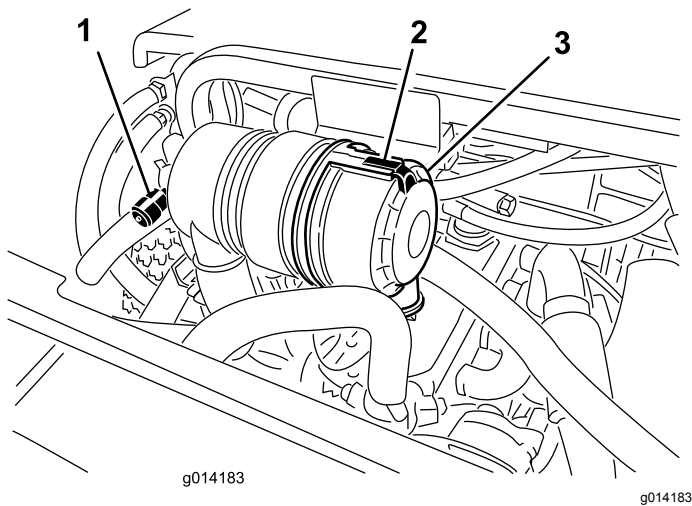

Figure 31
Service the air-cleaner filter only when the service indicator (Figure 31) requires it. Changing the air filter before it is necessary only increases the chance of dirt entering the engine when you remove the filter.
1. Release the latch securing the air-cleaner cover to the air-cleaner body (Figure 31).